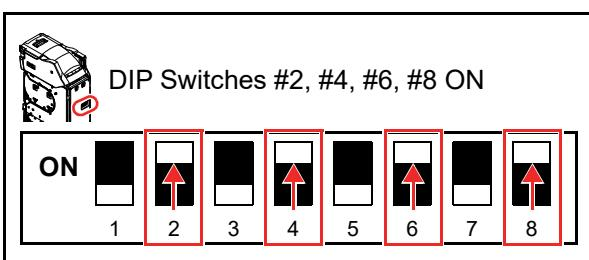

Figure 6-86 DIP Switch Test 7
9. Re-set the DIP Switches of the RT/RQ Unit as below (Figure 6-86).